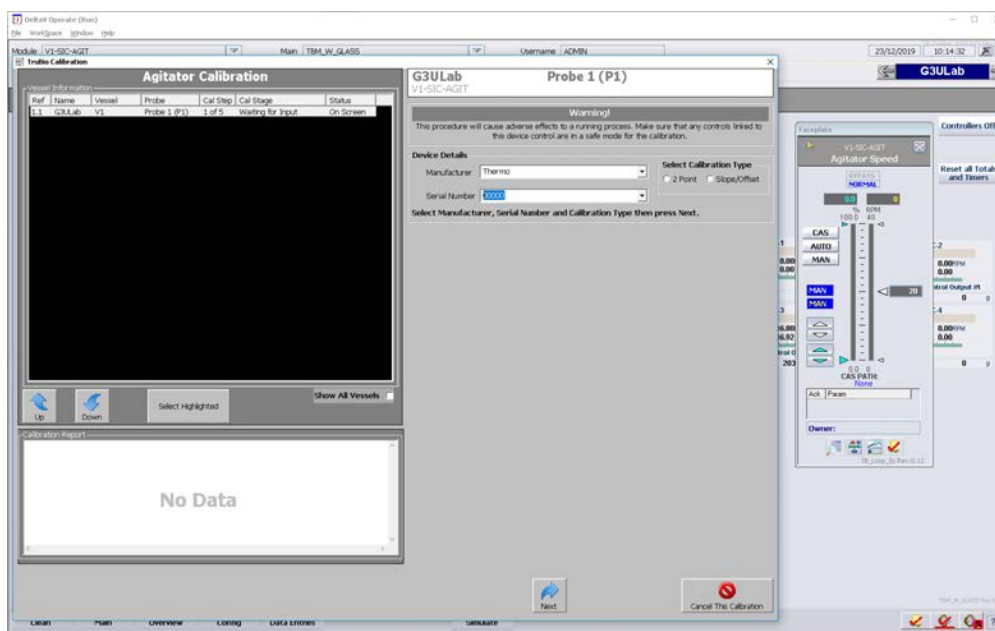

Figure 2.31. Entering manufacturer and serial number.
5. Enter the agitator manufacturer and serial number either by typing in or selecting from the drop-down menu (Figure 2.31). Then click **Next**.